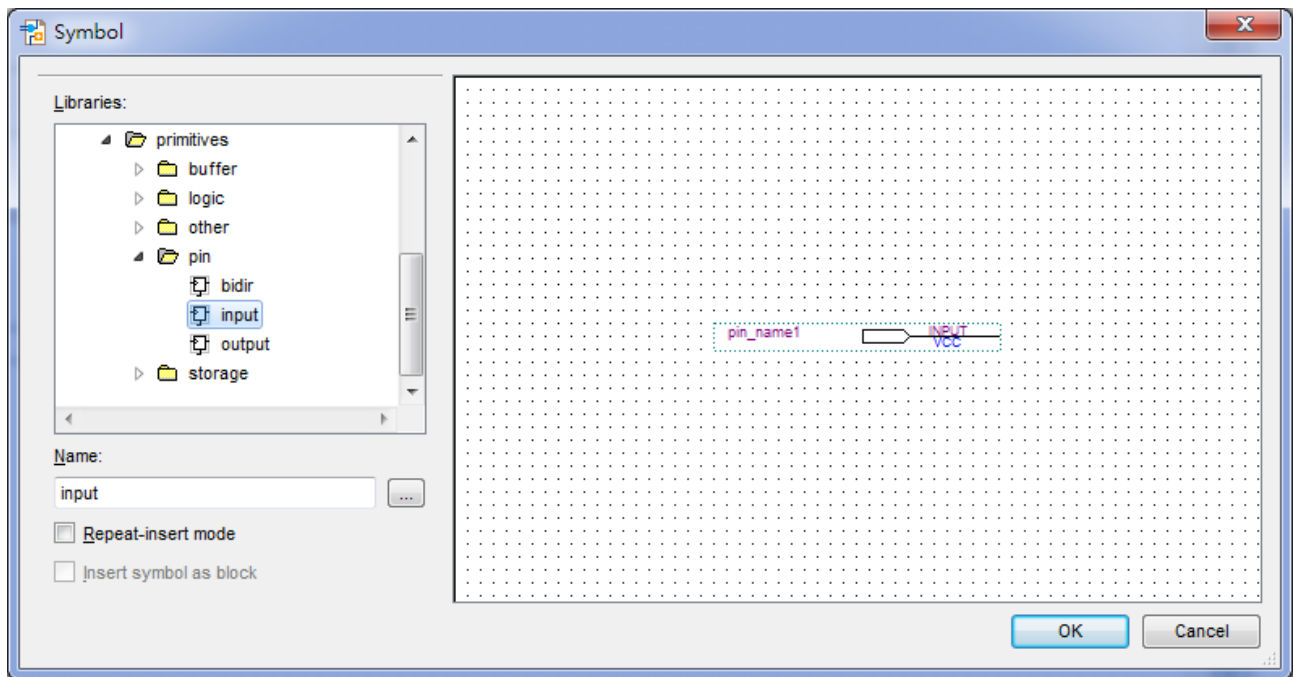

Figure 3-17 Input pin symbol
- b. Under Libraries, select quartus/libraries > primitives > pin > input. See **Figure 3-17**